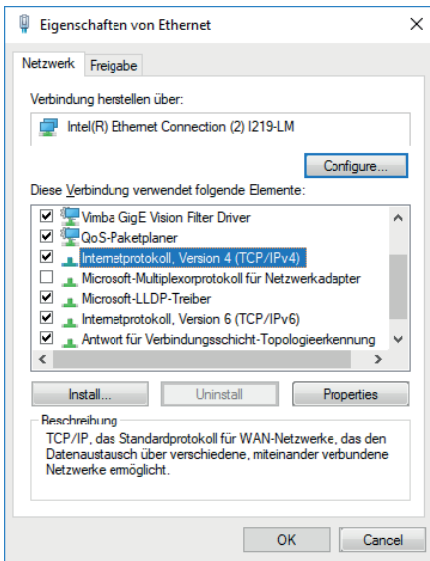

Fig. 8: Internet Protocol Version 4 (TCP/IPv4) properties
4. Select *Internet Protocol Version 4(TCP/IPv4)* and click on *Properties* to open the Internet Protocol Version 4 (TCP/IPv4) properties (Fig. 8).